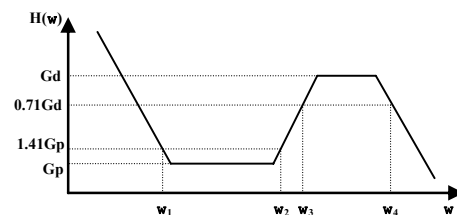

Figure 9 Transfer Function of the Compensation Network
The transfer function of the compensation network, defined as  $H(w) = VDR(w)/TMO(w)$ , is shown in figure 9.
- d.  $C_D \cdot R_i$  determines the corner frequency,  $w_2 = 1 / (C_D \cdot R_i)$ , where the differential component starts picking up (see Figure 9), as the frequency goes up.